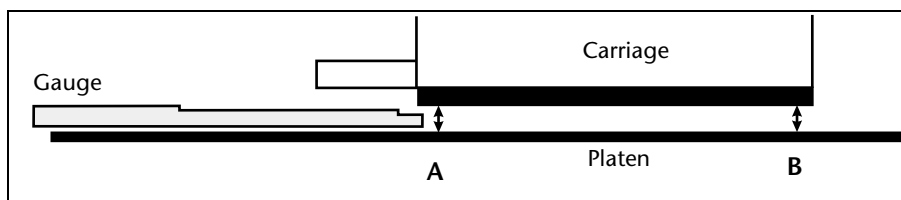

Fig. 5-6. Head height measurement points A and B
7. Position the stepped end of the gauge next to the carriage, anywhere over the platen (see **A** and **B** in Fig. 5-6 below).
8. Use the supplied hex wrench to turn one of the head height adjustment screws counterclockwise until the end of the gauge will *not* fit under the carriage as shown in Fig. 5-6.